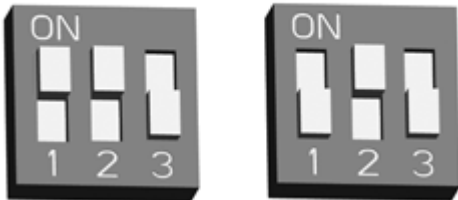

**Figure 3 : 220V Setting**
**2.1.** Input Terminals B、C are the power input for AVR-051. Terminals A、C are for Genset voltage sensing and it can be wired independently (See figure 2) or in parallel if the rated power output is AC 220V. (See figure 3 default setting)